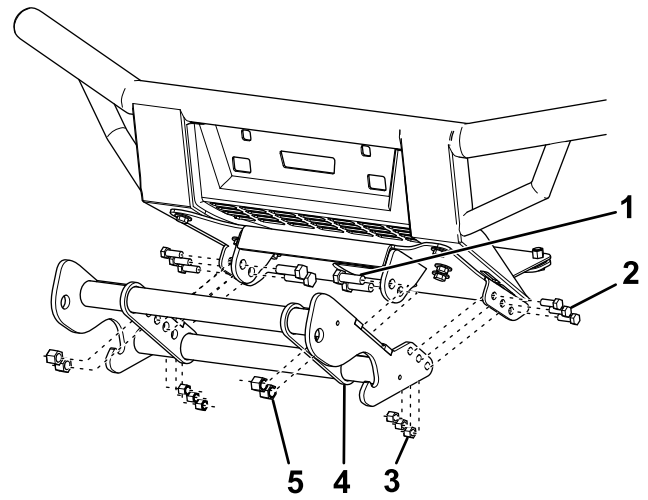

Figure 4
12. Loosely attach the side mounts of the pushbeam assembly to the skid plate using 6 bolts (3/8 inch) and locknuts (Figure 4).